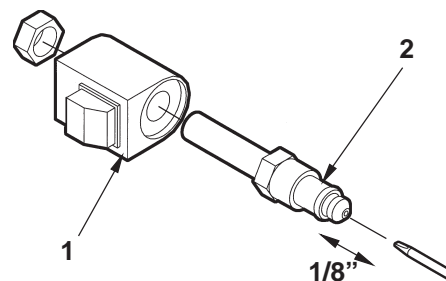

FIG. 60-2
2. Check the Valve Stem by removing the Coil Assembly (**Item 1, FIG. 60-2**). With platform on ground, unscrew the Valve Stem, (**Item 2, FIG. 60-2**) from the Pump. Push on the plunger that is located inside the Valve Stem by inserting a small screwdriver blade in the end. If the Plunger does not move freely (approximately 1/8") replace the Valve Stem. **When re-installing valve stem, torque hex nut to 30 in-lbs.**